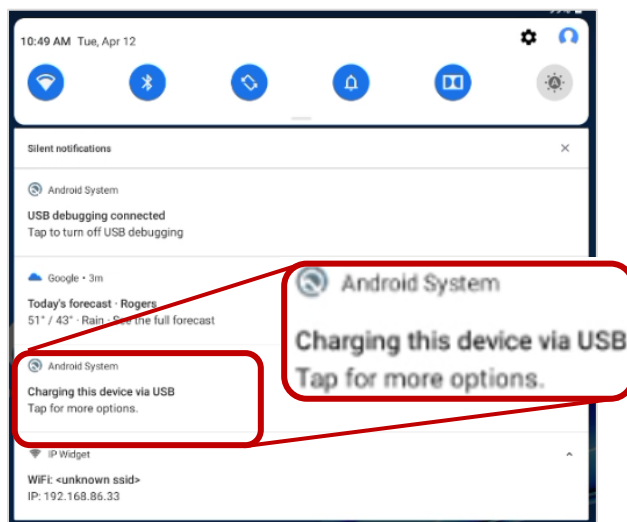

Figure 56
3. Swipe down from the top to display the **Silent Notifications** and locate the Android™ System notification about USB connection. Tap for other USB options (Figure 56).